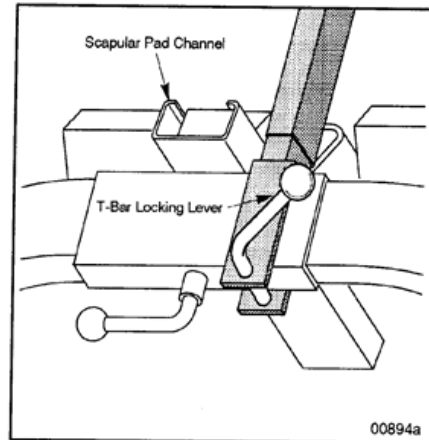

Figure 1-8 Calibration T-Bar Locking Lever
- Tighten the scapular pad but leave its locking lever in a position where it will not interfere with the calibration T-bar's locking lever. See Figure 1-8.
- Insert the T-bar's locking lever through the first hole in the base of the T-bar and screw it into the second. See Figure 1-8.